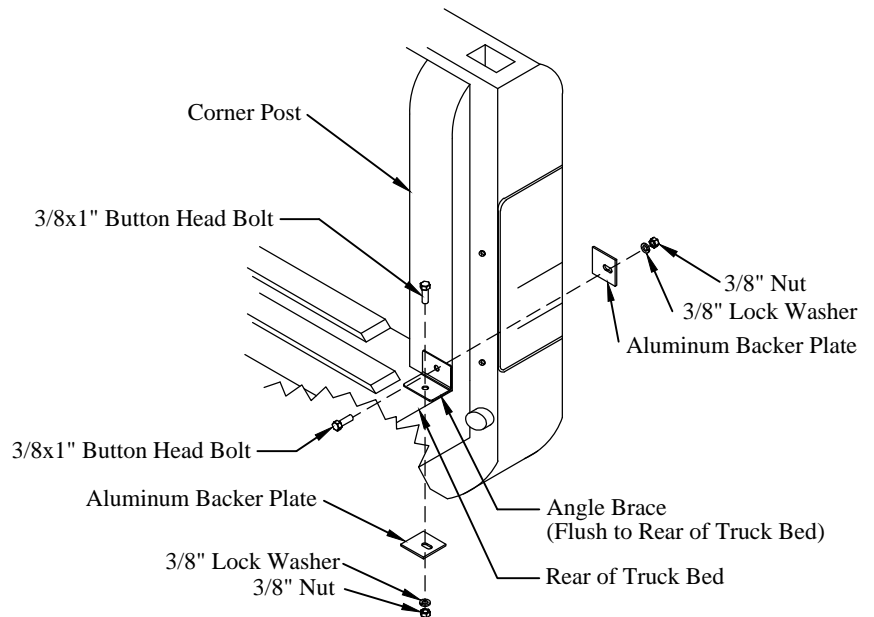

Figure 10: Angle brace location.
1. **Arrange** the three (3) filler strips along the top corner of the liftgate mainframe (Figure 10). Position the flange without holes horizontal.
2. **Attach** the filler strips to the mainframe with the provided twelve (12) self drilling screws. Avoid obstructions (hoses, wires, decals, etc) inside the mainframe while attaching filler strips.
2. **Position** each angle brace flush with the rear of the truck bed, where the truck bed meets the corner post (Figure 10).
6. **Install** the angle braces on the truck using the 3/8" button head bolts, aluminum backer plates, lock washers, and nuts (Figure 10).
2. **Position** the mounting brackets into the truck bed in front of the corner posts (Figure 10).